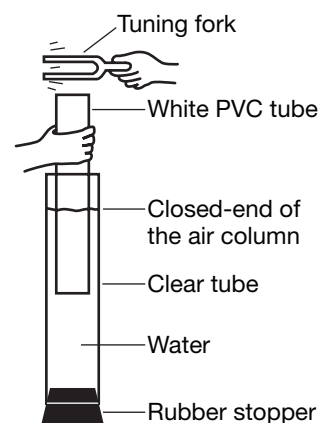

Figure 1.
The wavelength of a sound wave can be determined using an air-filled tube that is closed at one end. In this experiment, the air-filled tube is a piece of white PVC tubing placed in water. The water is used to close off the tubing at one end. See Figure 1. A tuning fork will be used to generate a sound wave over the open end of the white PVC tube. The length of the white PVC tube is altered by slowly lifting it out of the water. As the PVC tube is lifted, the length of the air-filled portion increases. At the appropriate length (this length varies for tuning forks of different frequencies), the sound wave travels through the air in the tube and reflects off the water at the closed end. The reflected wave then interferes with the incident waves generated by the source (the tuning fork), and a standing wave forms.
10. Hold the tuning fork over the tube setup. Hold the white PVC tube with your free hand and slowly lift it out of the water while at the same time lifting the tuning fork. Make sure the tuning fork remains over the opening of the white PVC pipe (see Figure 1). Keep moving the tube and the tuning fork upward until a very loud humming noise is heard. The tube may hum the entire time, but at a certain point, it will get very loud.
11. Hold the tube in place at the spot where the sound resonates the loudest. Using a metric ruler, measure the length of the white PVC tube that is above the surface of the water. Measure the length (L) in centimeters, and record the length in both cm and meters on the data table.